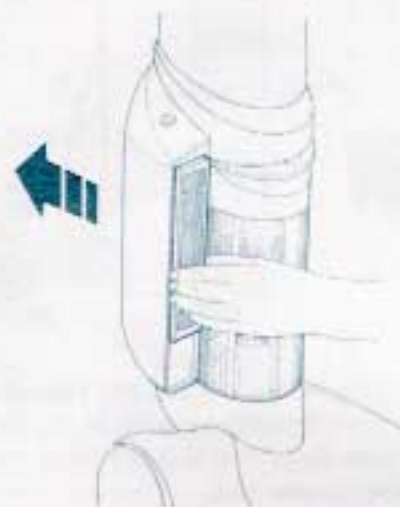

Figure 18
F. INSERTING A NEW CERTIFIED HEPA FILTER CARTRIDGE: (Figure 18)
2. Insert the new cartridge into the filter opening. (Fig. 18)